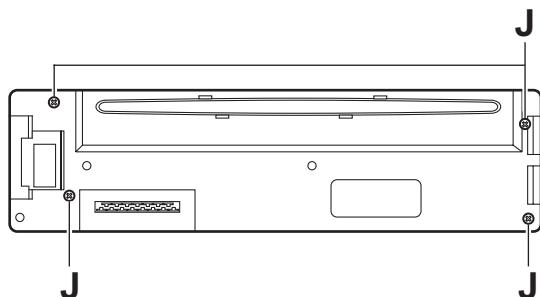

Fig.8
(See Figs.8 to 10)
- Remove the four screws **J** on the back side of the front panel assembly. (See Fig.8)